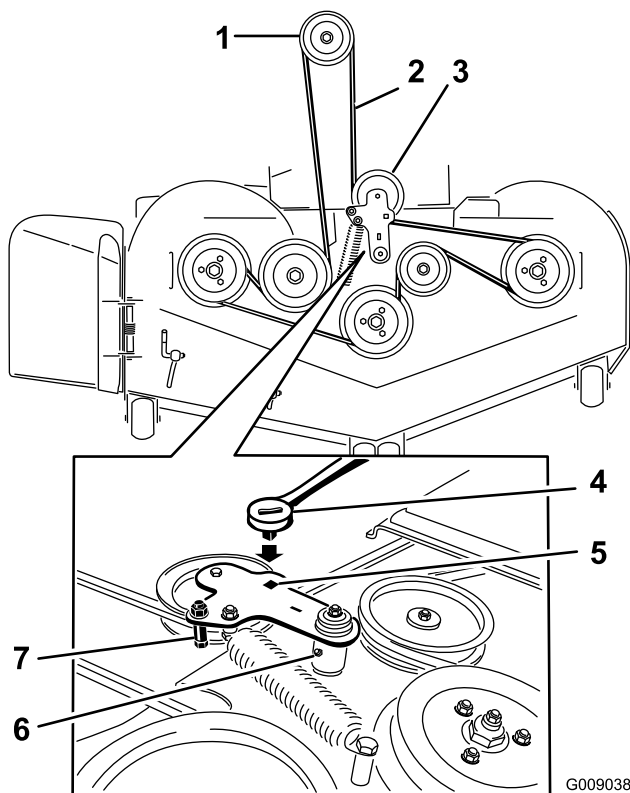

Figure 77
5. Use a ratchet in the square hole in the idler arm to remove tension on the idler spring (Figure 77).
7. Remove the belt guide on the spring-loaded idler arm (Figure 77).
9. Install the new belt around the mower pulleys and the clutch pulley under the engine (Figure 77).
10. Install the belt guide on the idler arm (Figure 77).
11. Using the ratchet in the square hole, install the idler spring (Figure 77).